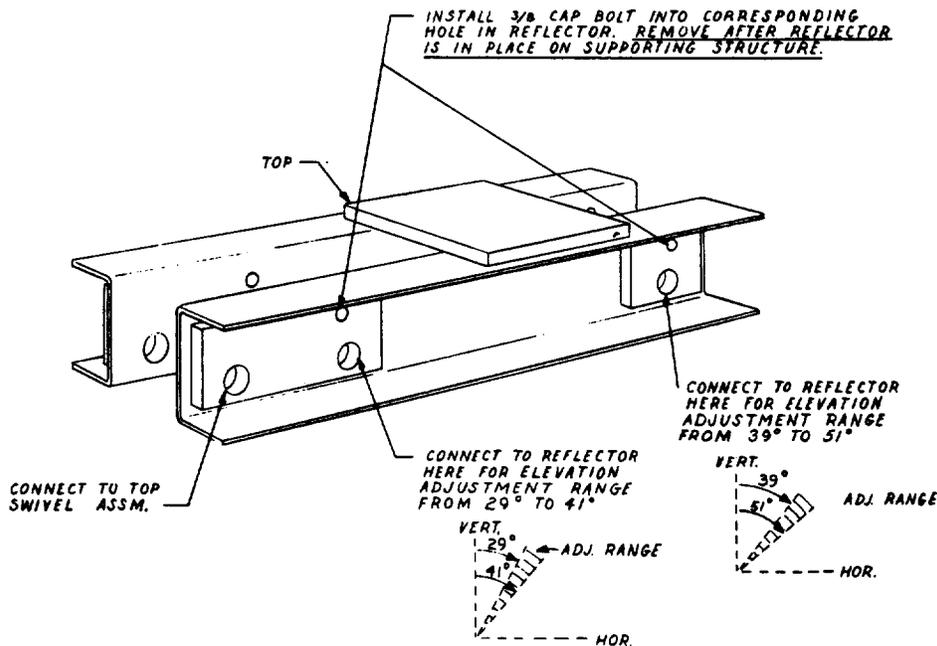

Fig. 3 — Top Mount Assembly — KS-16320 Passive Reflector
**3.09** The elevation setting to which the reflector is adjusted can be determined by reference to the scale mounted on the inside of the lower mount. A pointer on the adjacent holding clamp registers with the clamp to provide a reading. Note that there are two ranges on the scale (angles are measured with respect to the vertical), one from 29 to 41 degrees and the other from 39 to 51 degrees. Referring to Fig. 3 of this section, if the reflector is connected to the top mount at the hole indicated for the 29 to 41 degree range, read elevations from the corresponding range on the lower scale; if the top connection is made at the position indicated for 39 to 51 degrees, elevation is read from the lower scale having the same range. It is important that the pointer be level and at a right angle to the scale when elevation readings are taken. *See that the clamp assembly hangs evenly from the reflector base. Swing or lift the assembly slightly to assure that it is hanging vertically when readings are taken.*
**4.01** If the required change in elevation setting necessitates relocation of the reflector from one to the other of the top mount positions, as shown in Fig. 3 of this section, provide a rope sling, a 3/4-ton lever-operated chain hoist, for connecting the hoist to the 4-inch O.D. pipe,
**4.05** Referring again to figures in Section 402-423-400, attach the sling firmly to the 2- by 2-inch tube, Item 13, Fig. 3, or the 2-1/2-inch O.D. tube, Item 18, Fig. 4, at the back of the reflector, as near the top as possible.